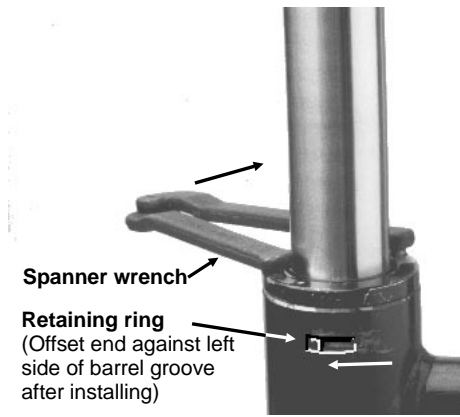

Figure 47
12. Install retaining ring (Item 12) to secure assembly in barrel. Align key slot in head with access groove in barrel. Rotate head clockwise as far as the retaining ring will allow. The offset end of the retaining ring will be against the left side of the barrel groove as shown (Fig. 47).